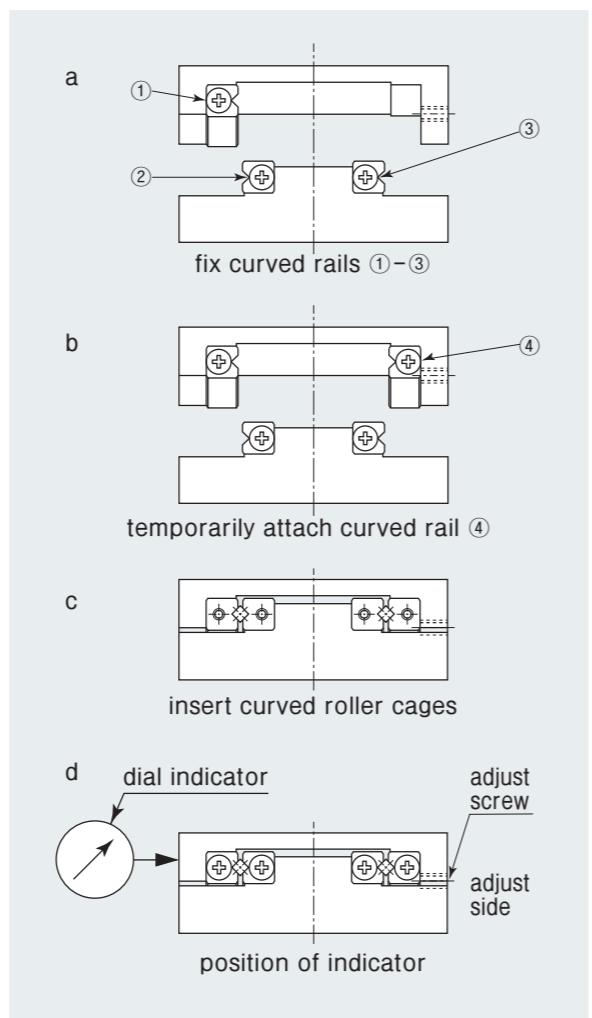

Fig.4 Installation method 1
- (1) Remove burr, flaw, and debris on curved installation surface of table and bed to keep clean from foreign materials while installation work is conducted.
- (2) Stabilize rails shown as ①, ② and ③ by tightening torque as instructed. (Fig. 4 a)
- (3) Tighten rail shown as ④ temporarily. (Fig. 4 b)
- (4) Remove end pieces from one end, insert curved roller cage slowly until it reaches middle position. (Fig. 4 c)
- (5) Replace the end pieces once fitted above.
- (6) Move the table to maximum stroke end to left and right and adjust curved roller cage come to the center of the rail assembly.
- (7) Fit indicator to side of the table (reference plane side). (Fig. 4 d)